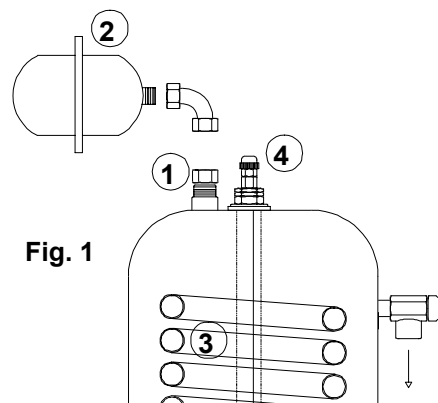

Fig. 1
Natural draught boilers are equipped with a device (see fig. 1) to control correct exhaust of combustion gases. This device guarantees maximum safety of operation if the flue should become partially or totally blocked, or if its section is not suitable for exhaust of combustion gases.
- turn the summer-winter selector switch to the OFF position, detach the electrical connection (1) on the flue safety thermostat (see fig.1), press the button (2) between the two electrical contacts and then attach the electrical connection 1 again.;
Every 12 months, or more frequently if the quality and consumption of water demand it, check the condition of the magnesium anode and replace it if signs of wear are evident. To check the condition of the anode 3 (see fig.1), open valve 4 on the top of the boiler, undoing the red knob in a clockwise direction. If water seeps out of the valve this means the anode is worn and must be replaced. If on the other hand there is no evidence of water leaking out, the anode can still be used. After carrying out the operation described here, remember to tighten the valve once more.
If the water pressure exceeds 6 bar, fit a 2 lt expansion tank to the boiler, proceeding as follows (see fig.1)
It is possible to make a d.h.w. circulating loop. Please proceed as follows: unscrew CAP A on the cylinder top,, insert a stainless steel PIPE B (supplied by the manufacturer with a kit) into the 1/2" union and connect here the circulating loop pipe C. If necessary, fit an expansion vessel (as shown in fig.1) inserting a "T" connection between the circulating loop pipe and the cylinder 1/2" union.